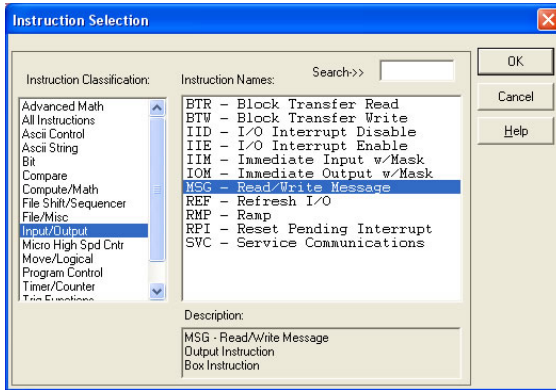

Figure 101: MSG Instruction Selection
- Select the “MSG” instruction from the “Input/Output” classification, then click OK. Refer to Figure 101.